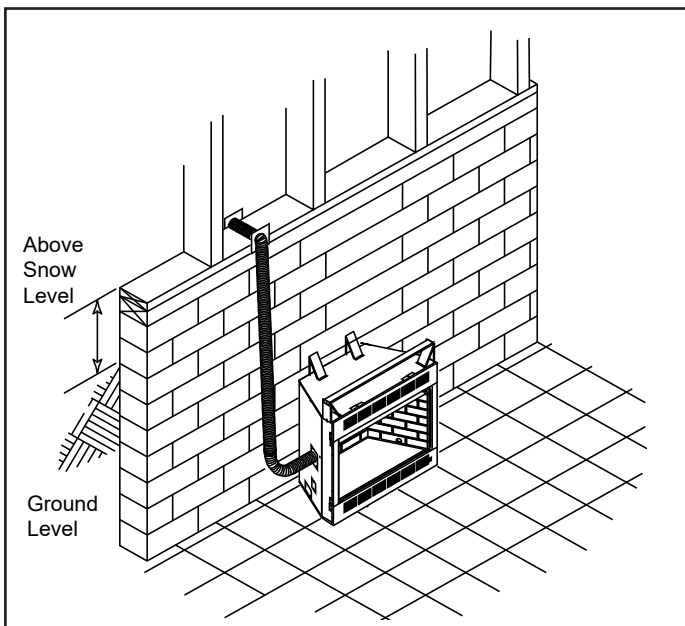

Figure 8.1 Basement Installation
6. Avoid extremely long runs and numerous turns in the duct leading from the fireplace to the combustion air assembly. These conditions increase the resistance to the free flow of air through the duct. Refer to Figures 8.1 through 8.4 for methods of installing the outside air for combustion assemblies.